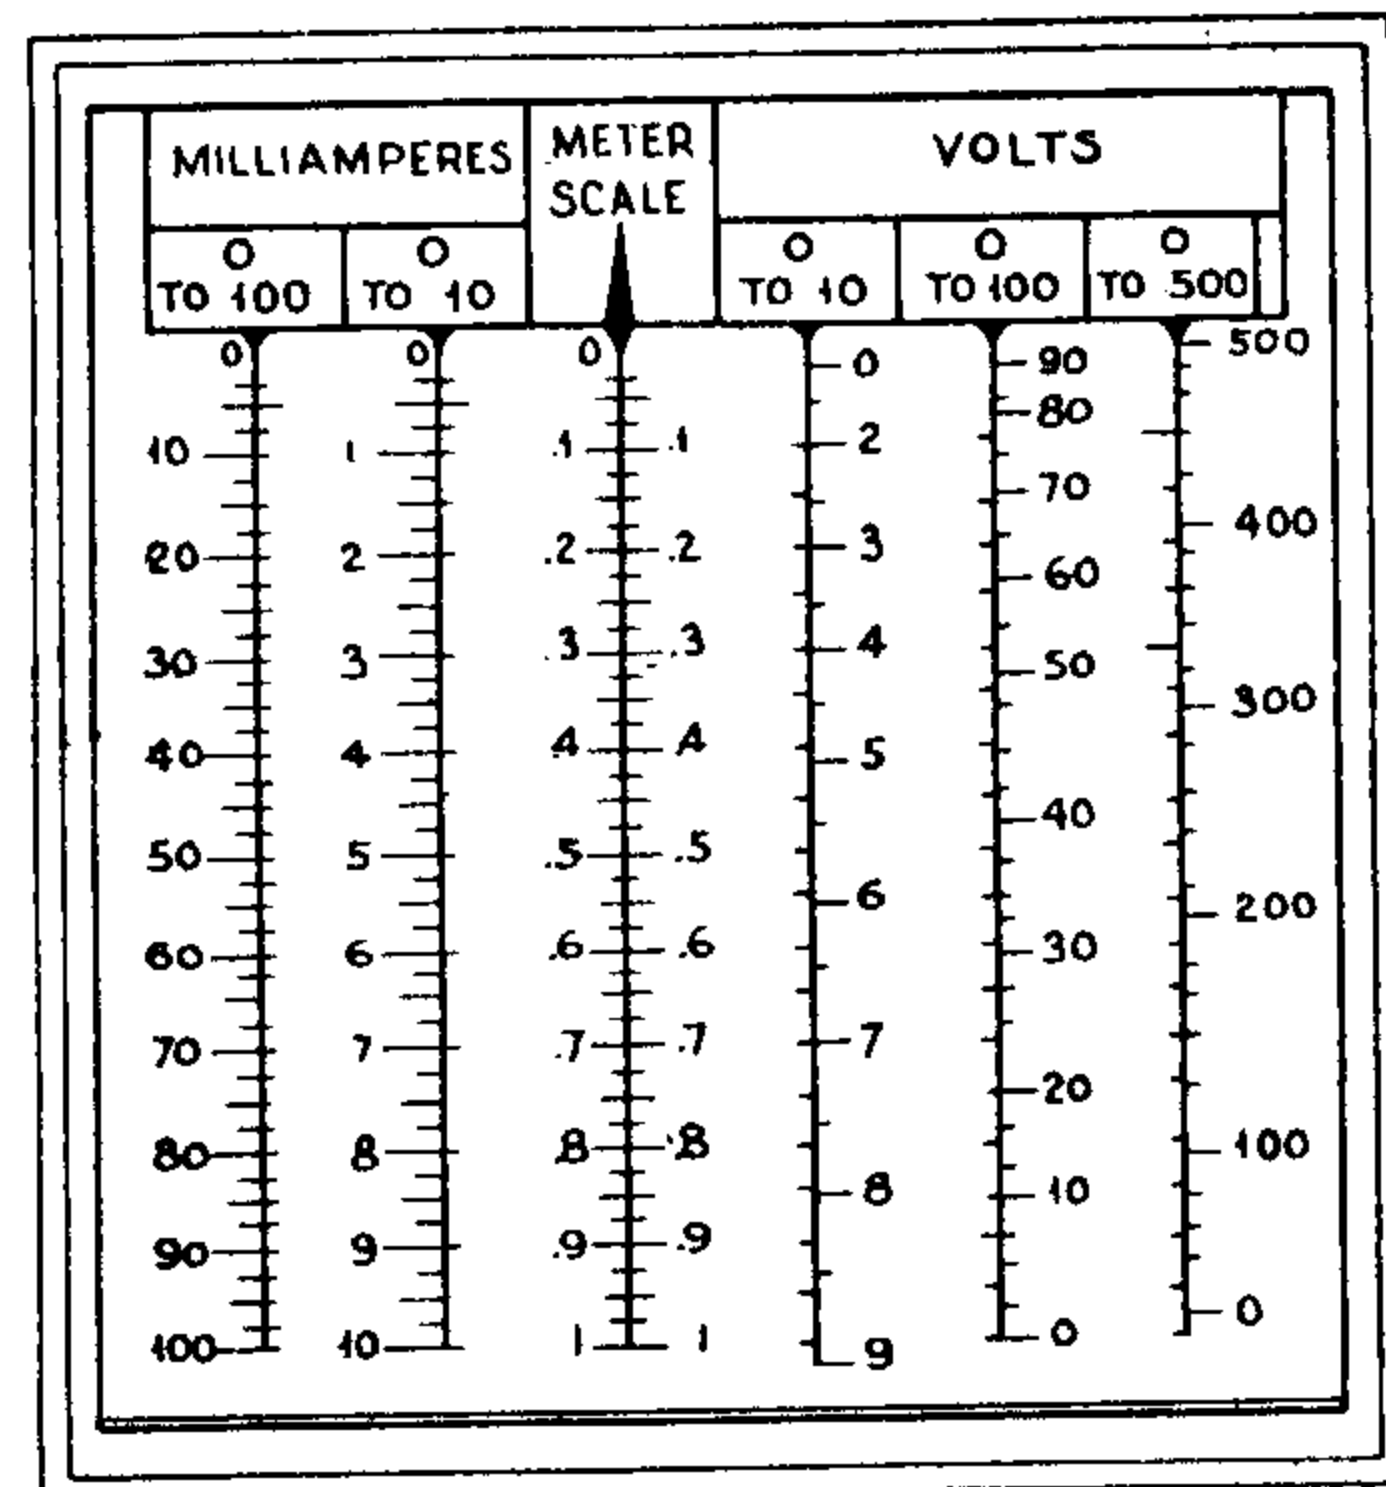

Fig. 2
A.C. voltages in the same manner, but using the jacks (AC1) and (HT1) with alternating current on the terminals. Calibrate in 20-volt steps. Assemble various calibrations on a single scale, as in Fig. 2.